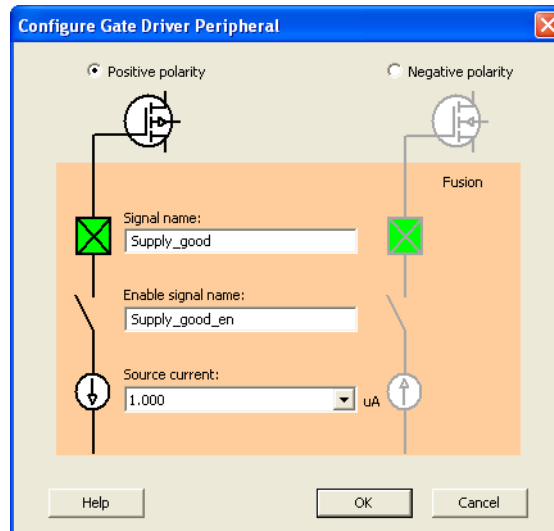

Figure 2-5 · Configure Gate Driver Peripheral Window
12. Enter the following information (as shown in Figure 2-5 on page 12) :